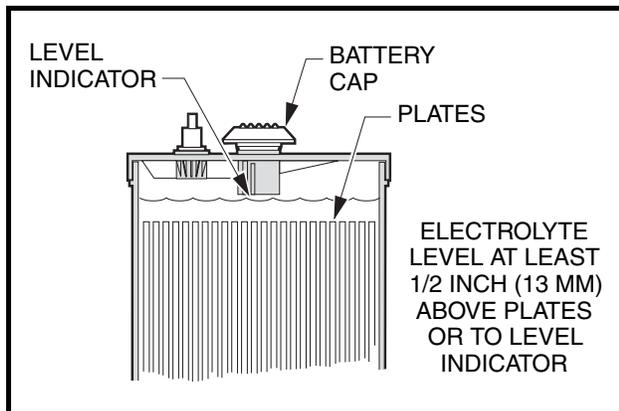

Figure 23 Electric Battery Electrolyte Level
2. The electrolyte level in the batteries should be checked weekly (**Figure 23**). Add water only after charging unless the electrolyte level is below the top of the plates. In this case, add just enough water to cover the plates, charge and then check the level again. Never charge batteries if plates are exposed above electrolyte level. For best battery life, use only distilled water. **See following CAUTION and NOTE.**